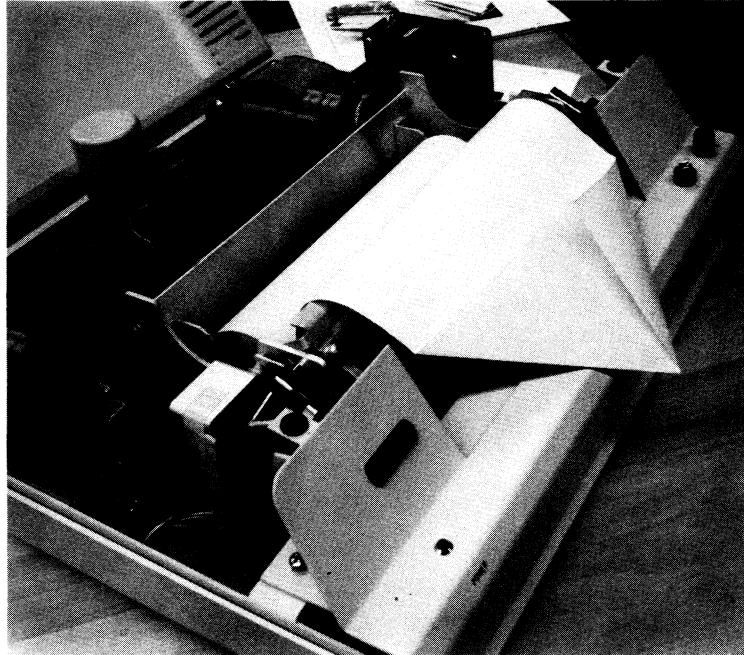

Figure 5. Folded Paper and Seated Roller
3. Fold paper and seat roller and paper as shown in Figure 5.